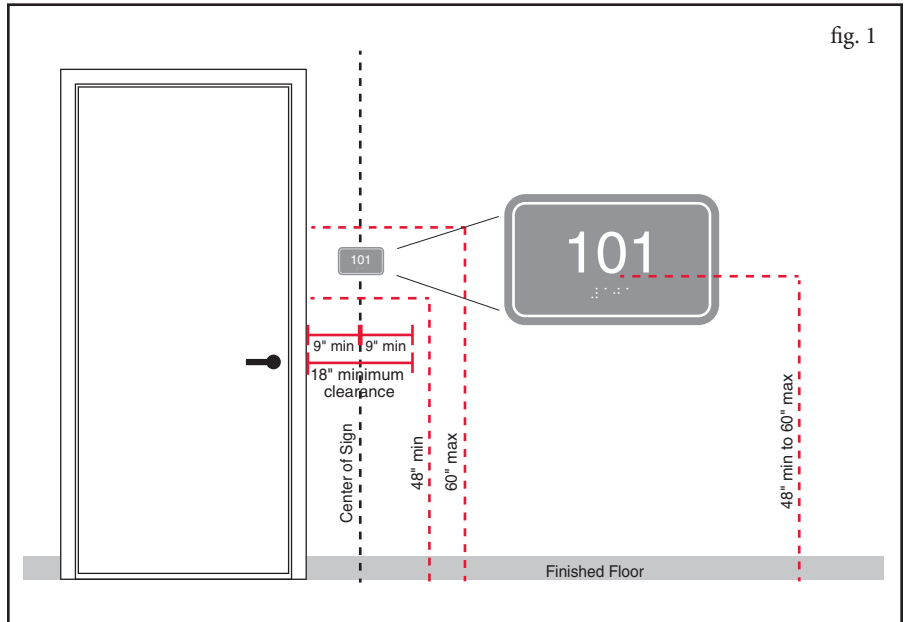

fig. 1
2. Determine the mounting height for your signs. The ADA requires that the baseline of the lowest raised character* be a minimum of 48" above the finished floor, and the baseline of the highest raised character be a maximum of 60" above the finished floor. (see fig. 1)